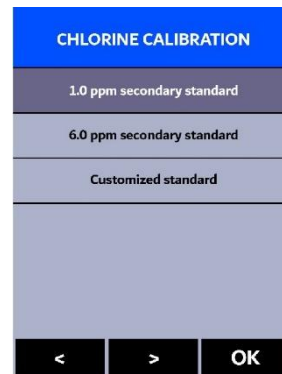

Figure 33.
6. Use **<** and **>** to cycle to the desired secondary standard (Figure 33).
8. Rinse the main module sample cell three times with deionized (DI) water. Fill the sample cell with DI water.